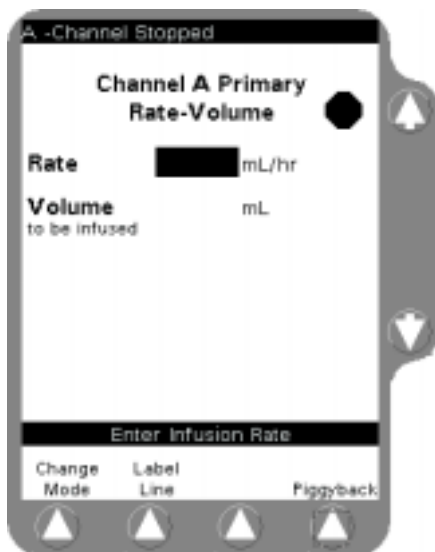
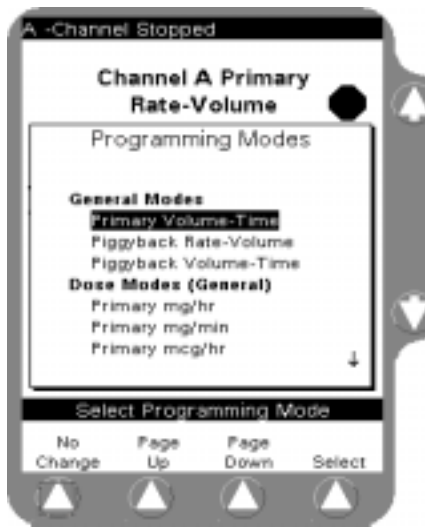

Figure 5-5 Primary Programming Screen
Figure 5-6 Programming Modes
1. If the pump channel is running, press the **STOP** key to stop the pump channel. Press the desired **Channel Select** key to access the Primary Programming screen (Figure 5-5).
2. From the Programming screen, press the **Change Mode** soft key (Figure 5-5) to display the available modes (Figure 5-6).